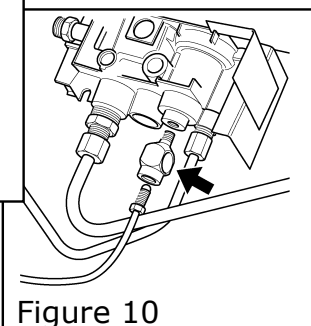

Figure 10
5. Fit the thermocouple interrupter to the regulator block. See figure 10.